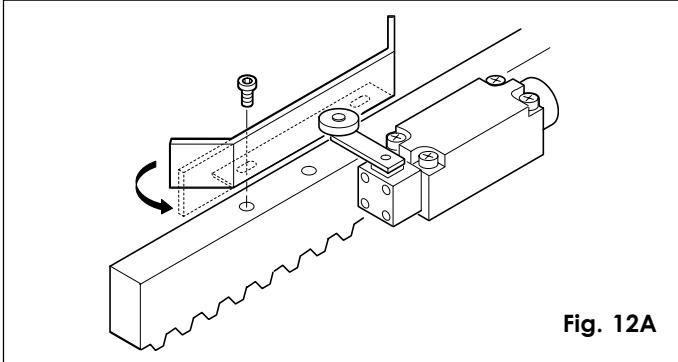

Fig. 12A
Note: the travel stop plates may be fastened by means of screws, if desired (fig. 12A).
Important: a) The limit switch must be tripped by the initial bent part of the travel stop plate, as shown in fig. 12A.
b) It is advisable to straighten the final bent part of the travel stop plate, as shown in fig. 12A, in order to prevent the plate from passing the limit switch.
The operator is equipped with a mechanical travel stop with roller and trigger. The movement of the gate is stopped when a bent travel stop plate fixed to the top of the rack operates the trigger, tripping the microswitch (fig. 12A).